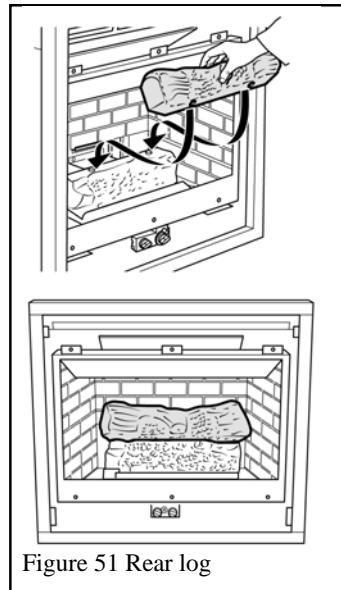

Figure 51 Rear log
2. Place the rear log in position locating the two top projections in the ash bed into the holes in the rear log. See figure 51.